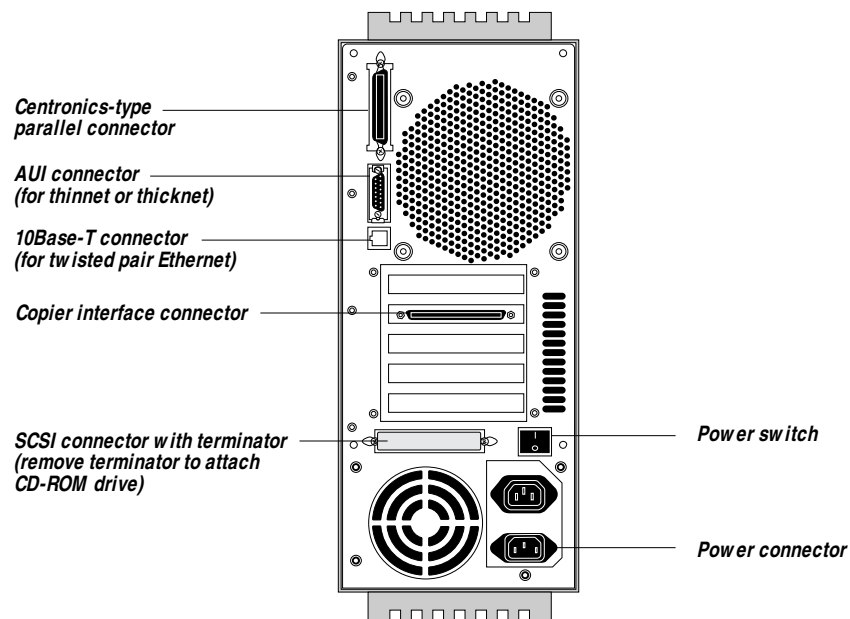

Figure 6-2 Back panel of Fiery XJ BP100 showing connectors
- Check that all interface cables to the system are plugged into the proper connectors on the back panel of the chassis (see Figure 6-2).